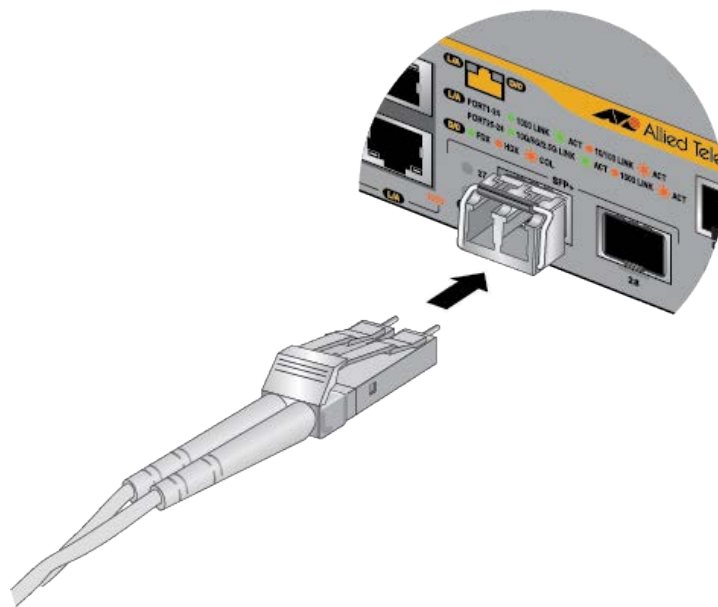

Figure 80. Connecting a Fiber Optic Cable to an SFP or SFP+ Transceiver
7. Connect the fiber optic cable to the transceiver. Refer to Figure 80 on page 154. The cable connector should fit snugly into the port, and the tab should lock the connector into place.